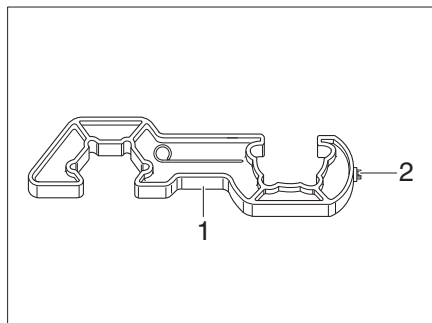

Fig. 85 Screw aid
- ▶ Use the enclosed screw aid (Fig. 85,1) to connect and disconnect the high-pressure hoses. It ensures the required tightening torque and prevents damage to the screw connection through using unsuitable tools.
- Unscrew the high-pressure hose (Fig. 82,3) from the gas bottle using the screw aid (Fig. 85).